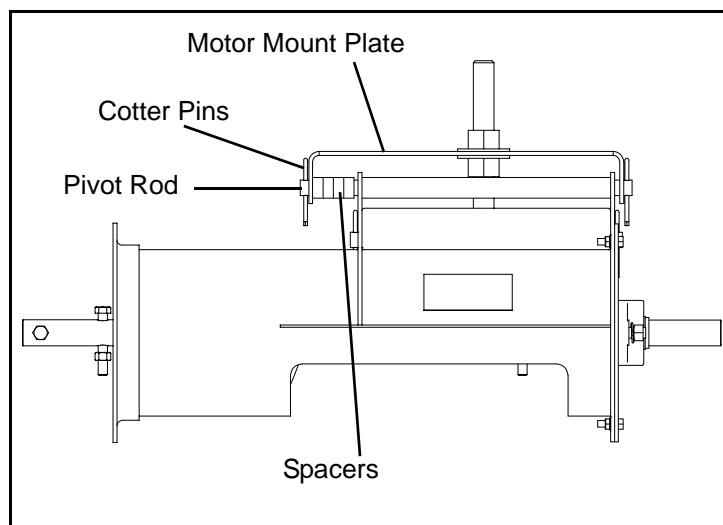

Figure 4G
4. When the pivot rod begins to extend through the pivot tube install the spacers, BETWEEN the Back Plate and the inner face of the Motor Mount Plate. *(See Figure 4G).*